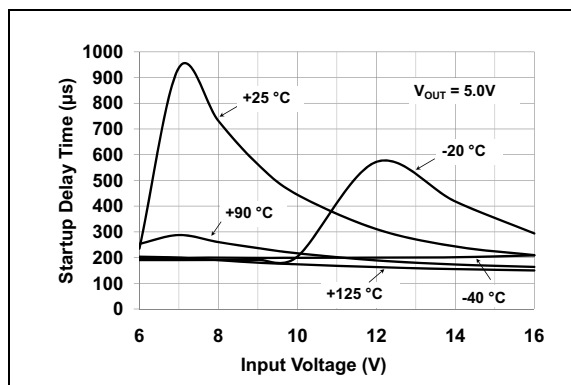

FIGURE 2-34: Start-up Delay From SHDN to 90% V_{OUT} .
- 8:** See **Section 4.6 “Shutdown Input (SHDN)”** and **Figure 2-34**.